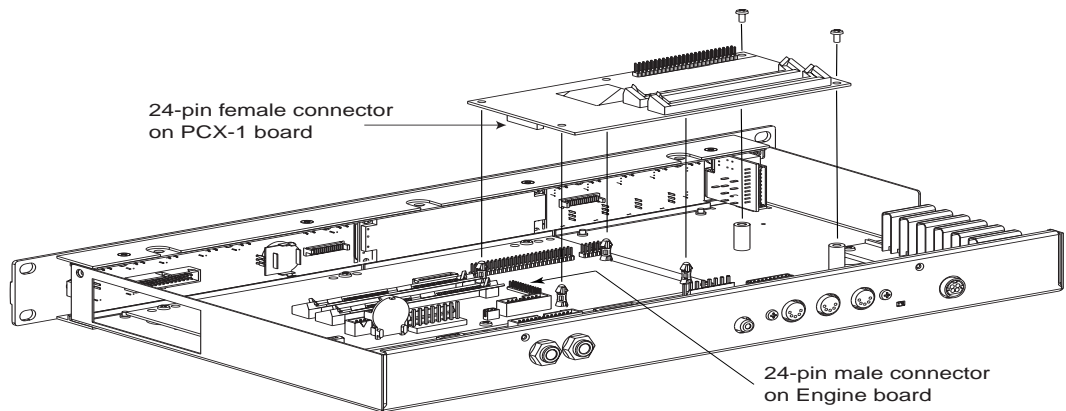

Figure 6 *Inserting the PCX-1 board*
1. Locate the Engine board (see Figure 6), and identify the four white plastic standoffs (vertical pins) that will hold the PCX-1 board in place. Also notice the 24-pin male connector on the Engine board. This will plug into the connector on the PCX-1 board.